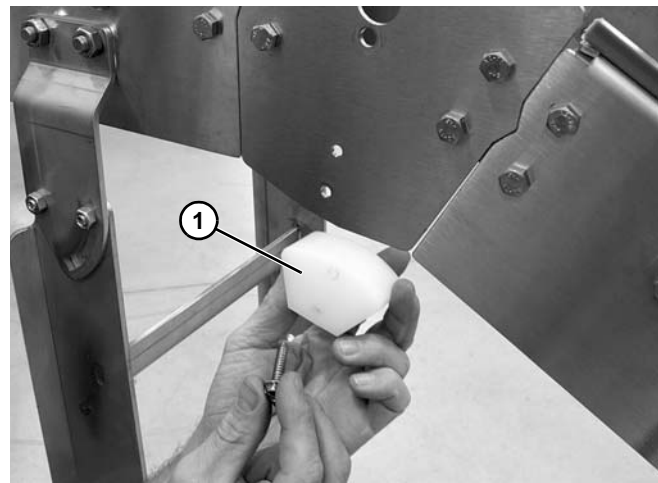

**Figure 81**
- c. To lock the retainer plate (**Figure 81, item 1**) in place, move the wrenches (**Figure 81, item 2**) away from each other.